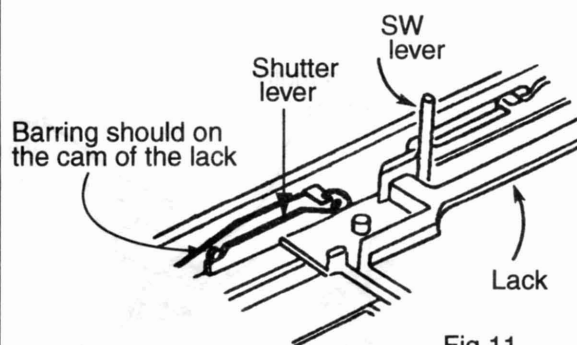

Fig.11
■ Removing the car. base assembly (see Fig.11 to 13)
2. Remove the slide bracket (L) and slide bracket (R).
as follow the fig.11